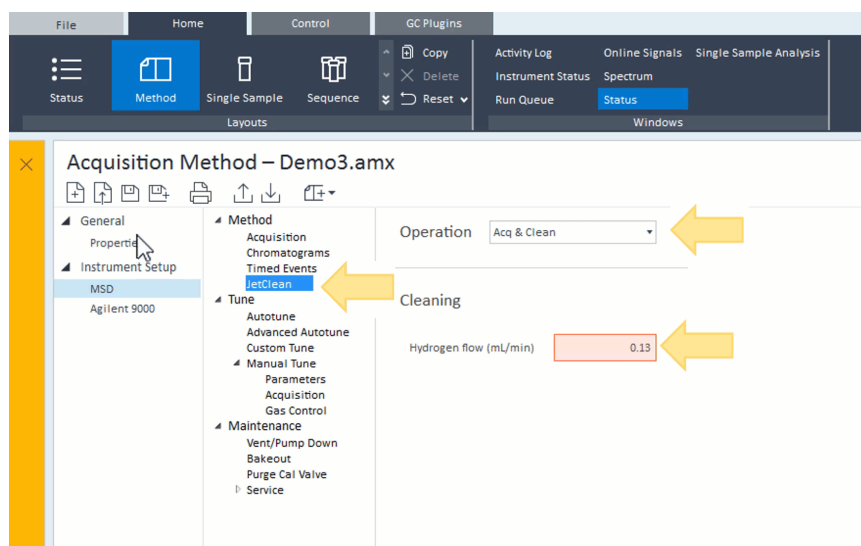

Figure 17. Method Acquisition parameters
- Click **JetClean**, then, from the **Operation** drop-down, select **Acq & Clean**. This option will not be available if your MSD is not configured with a gas flow controller. (See Figure 17.)